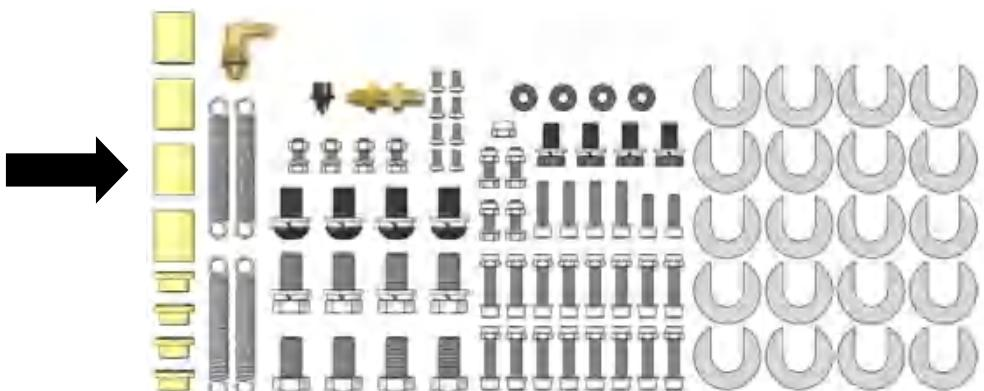

Fig. 12
6. Check the parts of parts box according to the parts box lift . (See Fig. 12).